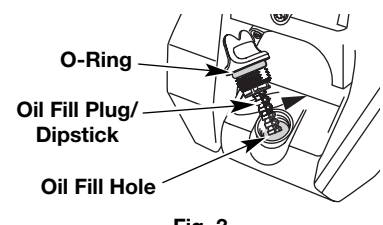

Fig. 3
3. Remove the dipstick from the crankcase (Fig. 3).
4. Pour the entire bottle of oil into the oil fill hole (Fig. 3).